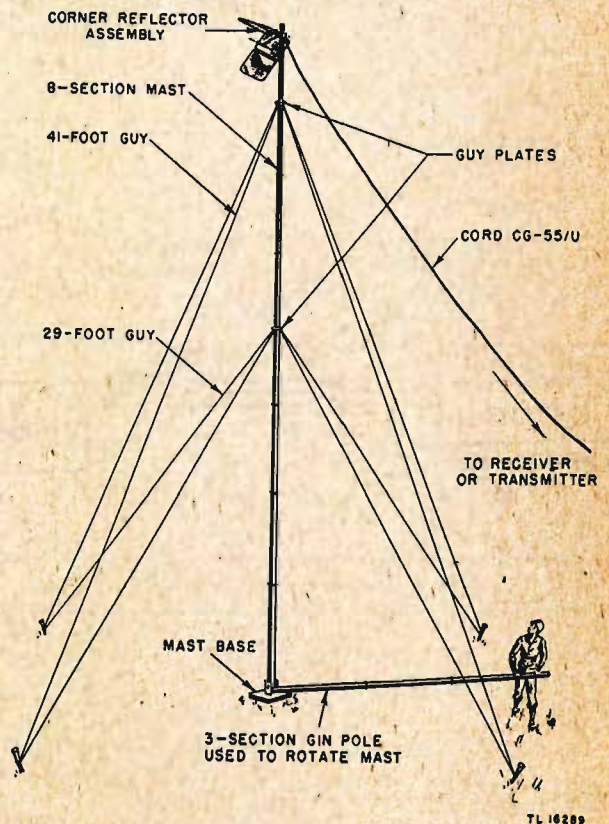

Figure 42. Antenna erected.
e. Rotate the mast by means of the gin pole until the array faces the desired direction (fig. 42).